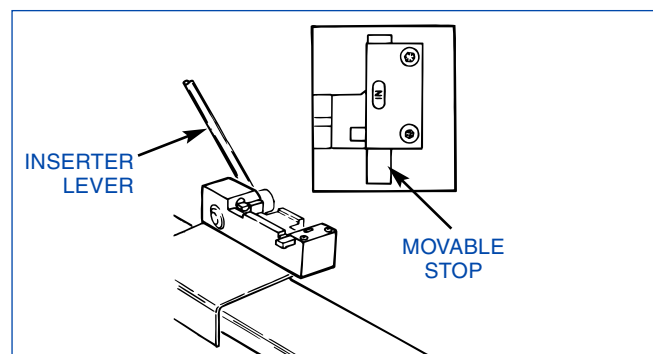

FIGURE 2-4, Open Position
3. Move Lever to open position and slide Movable Stop to IN position (see Figure 2-4). Fixture is now ready for inserting new stone.